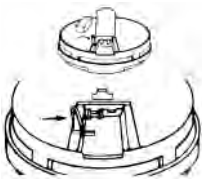

FIGURE 6
5. When installing the battery, press the battery reminder finger down into the battery compartment and install the battery (see figure 6).